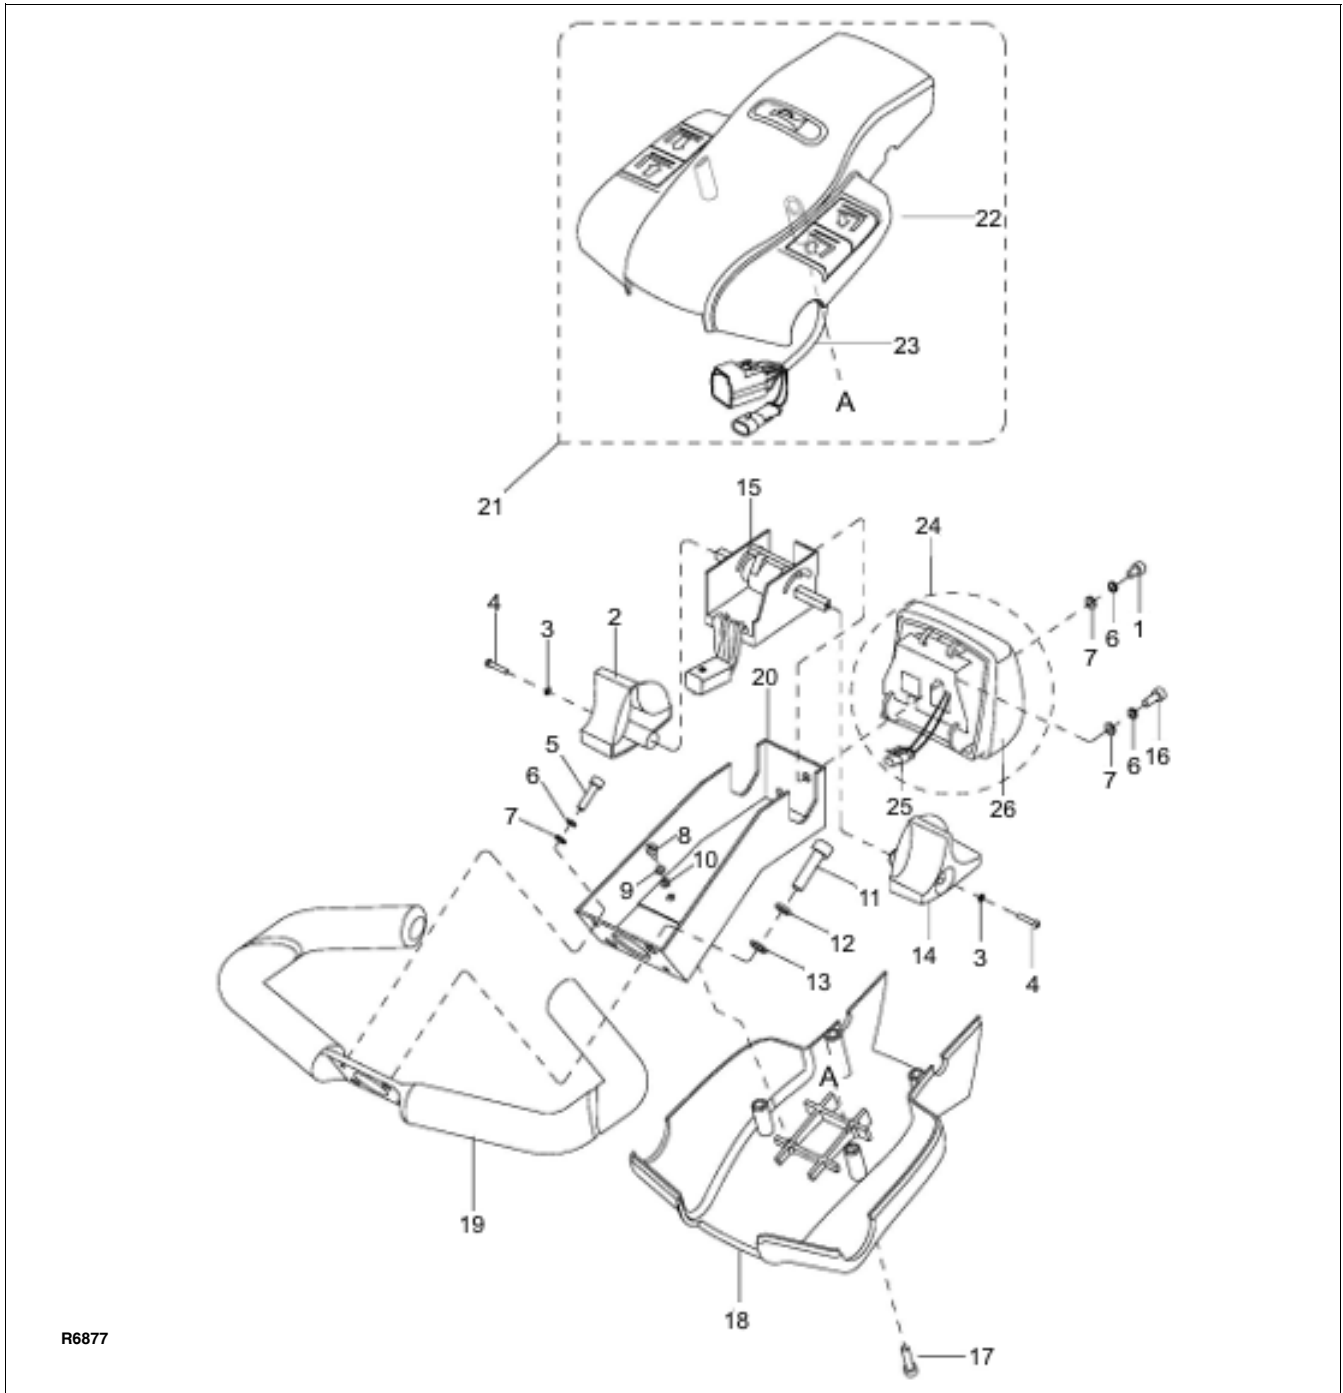
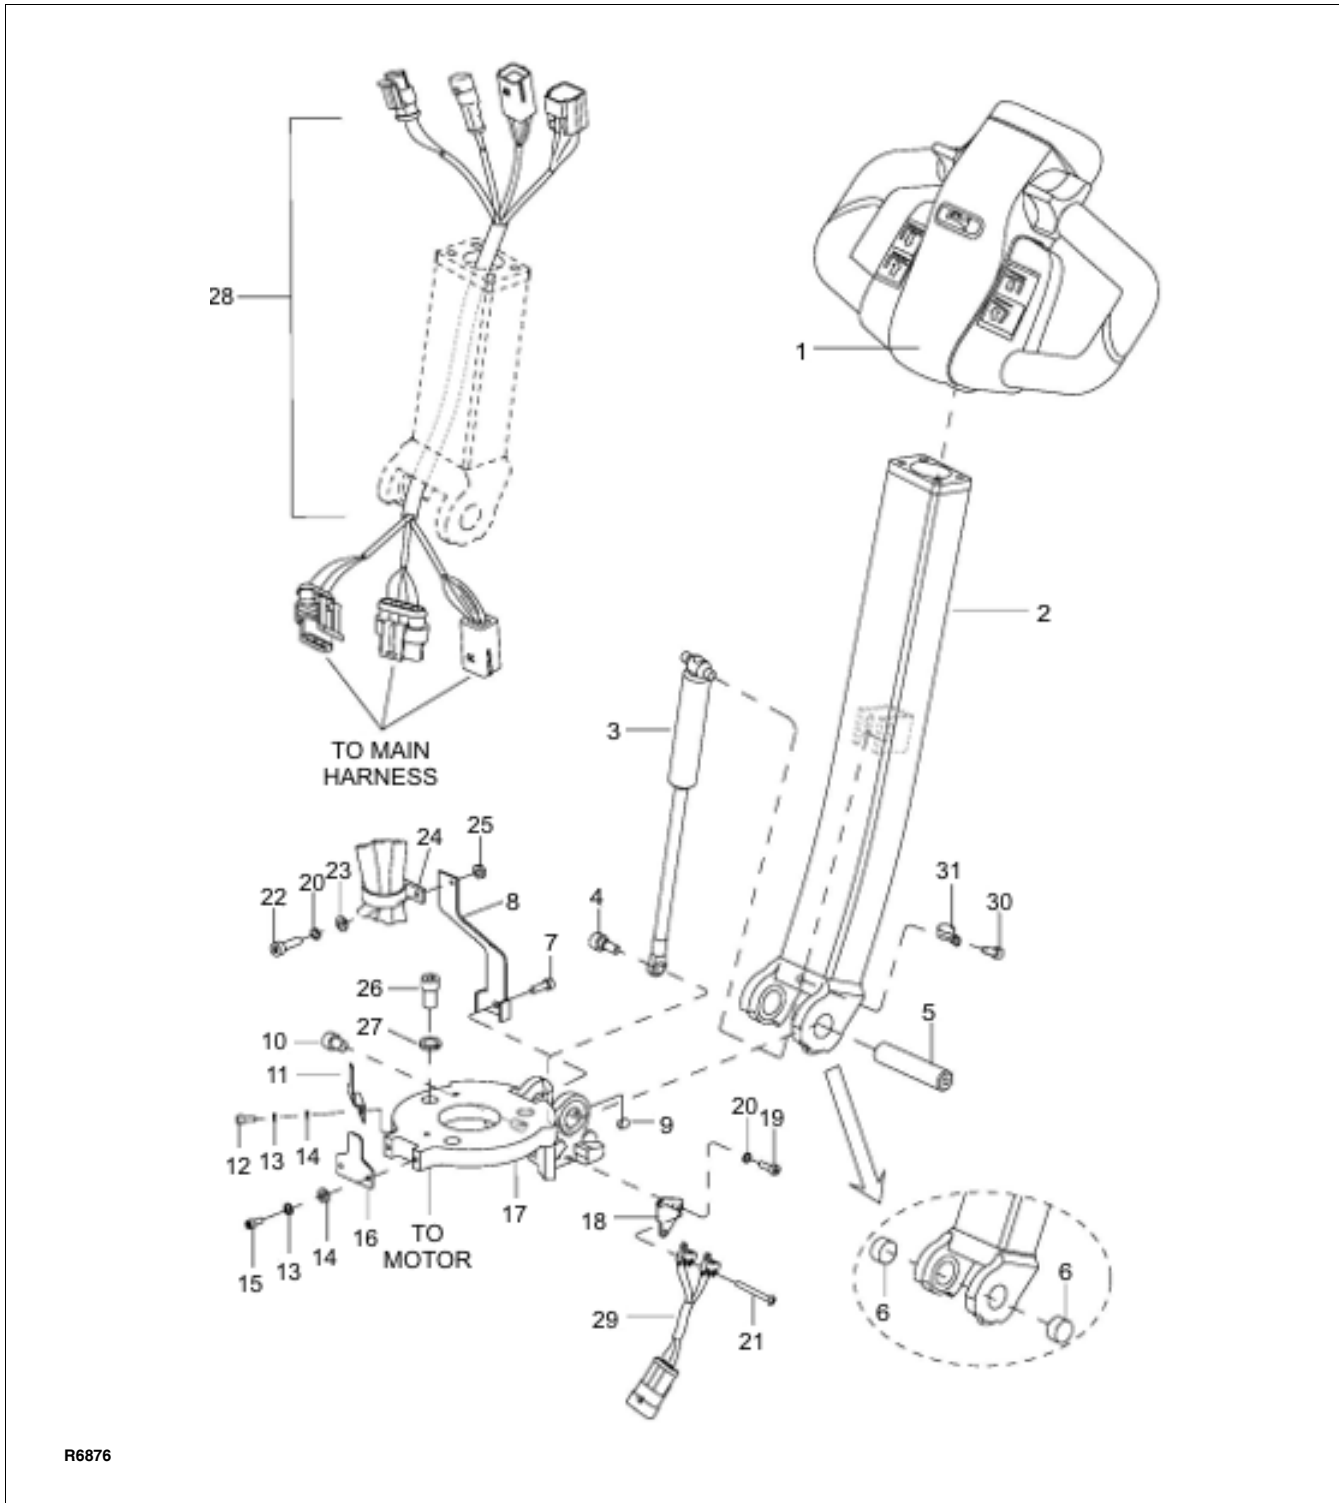

Figure 5-1 Control Head
Figure 5-2 Steering Arm
2. Remove four screws (17, Figure 5-1), lift up cap assembly (21) and disconnect harness (23) from harness (28, Figure 5-2).
1. Hold cap assembly (21, Figure 5-1) in place and connect harness (23) to harness (28, Figure 5-2).
2. Position cap assembly (21, Figure 5-1) on control head and secure with four screws (17).
2. Disconnect harness (28, Figure 5-2) from potentiometer (15, Figure 5-1) and reversing switch (24).
3. Remove two screws (11), two lock washers (12) and two flat washers (13).
1. Hold control head and handle (19, Figure 5-1) in place and install two screws (5), two washers (6) and two flat washers (7).
2. Install two screws (11), two lock washers (12) and two flat washers (13).
3. Reconnect harness (28, Figure 5-2) to potentiometer (15, Figure 5-1) and reversing switch (24).
2. Disconnect harness (28, Figure 5-2) from potentiometer (15, Figure 5-1).
3. Remove screw (4), washer (3) and control knob (2) from potentiometer (15).
4. Remove screw (4), washer (3) and control knob (14) from other side of potentiometer (15).
5. Remove screw (1), lock washer (6) and flat washer (7).
6. Remove screw (16), lock washer (6) and flat washer (7) and remove potentiometer (15) from bracket (20).
7. Position new potentiometer (15) in bracket (20) and secure with screw (16), lock washer (6) and flat washer (7).
8. Install screw (1), lock washer (6) and flat washer (7).
9. Install control knob (14) on potentiometer (15) and secure with screw (4), and washer (3).
10. Install control knob (2) on the other side of potentiometer (15) and secure with screw (4), and washer (3).
11. Connect harness (28, Figure 5-2) to potentiometer (15, Figure 5-1).
2. Disconnect harness (28, Figure 5-2) from reversing switch (25, Figure 5-1).
3. Remove screw (1), lock washer (6) and flat washer (7).
4. Remove screw (16), lock washer (6) and flat washer (7) and remove switch assembly (24) from bracket (20).
6. Remove two pins (3) and switch assembly (25, Figure 5-1) from bracket (4, Figure 5-3).
7. Position the new switch assembly (25, Figure 5-1) in bracket (4, Figure 5-3) and secure with two pins (3).
8. Position bracket (4) in button (1) and install pin (5).
9. Position switch assembly (24, Figure 5-1) on bracket (10) and secure with two screws (13).
10. Reconnect harness (28, Figure 5-2) to reversing switch (25, Figure 5-1).
The steering arm gas return spring (3, Figure 5-2) is replaced while the steering arm (2) is in the upright position.
3. Secure the steering arm (2, Figure 5-2) in the upright position.
4. Remove screw (4) and free the gas return spring (6) from bracket (17).
5. Pull downward on the gas return spring (3) to free it from its seat inside steering arm (2).